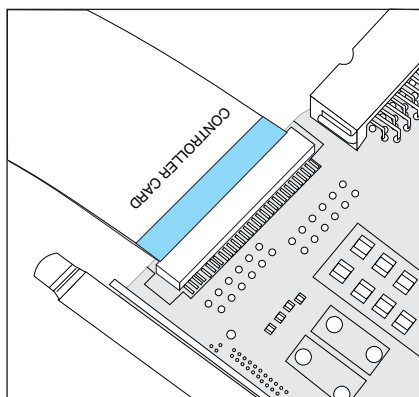
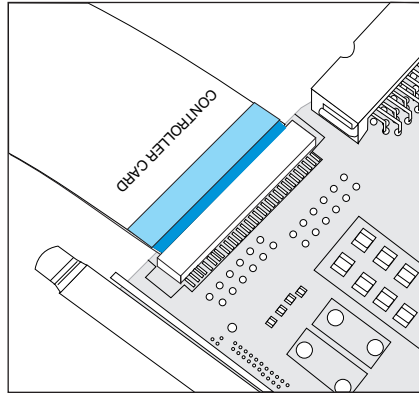

Figure 73. SAN Volume Controller 2145-4F2 service controller card cable installed properly
Figure 74. SAN Volume Controller 2145-4F2 service controller card cable that is not properly seated
- b. Before you reconnect the ribbon cable, ensure that its contacts are downward. *Carefully* install the cable to the rear of the service controller, being sure to install the cable straight in with no rocking or twisting during installation. Be sure to verify that the dark blue line on each cable connector end is not visible. This ensures that the cable is fully seated. See Figure 73 for an example of the cable when it is installed properly and Figure 74 on page 93 for an example of the cable when it is not installed properly.